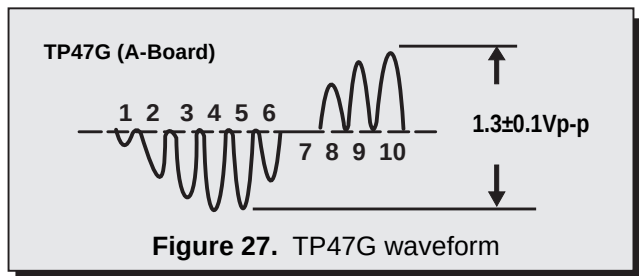

Figure 27. TP47G waveform
4. Select DAC Sub-Color adjustment "COLOR" and adjust for peak to peak amplitude to be $1.3V_{p-p} \pm 0.1V$ as shown in Fig. 27.